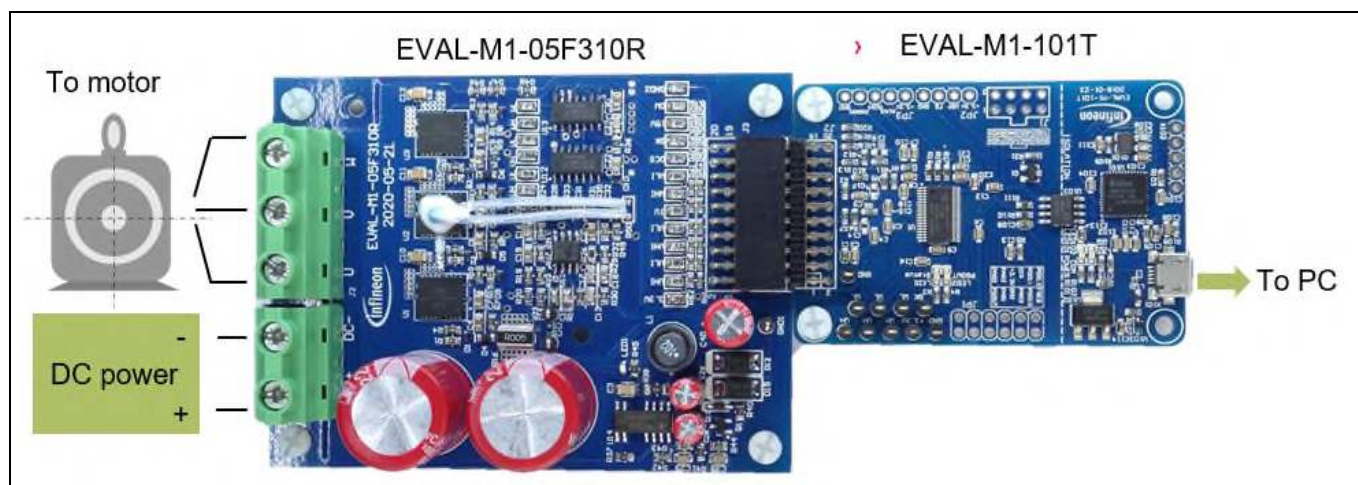

Figure 3 System connection example
Figure 3 shows the basic system connection using EVAL-M1-05F310R to run a motor with MCEDesigner.
4. Connect EVAL-M1-101T’s M1 20-pin interface connector (J2) to power board (for example EVAL-M1-05F310R, see Figure 3).